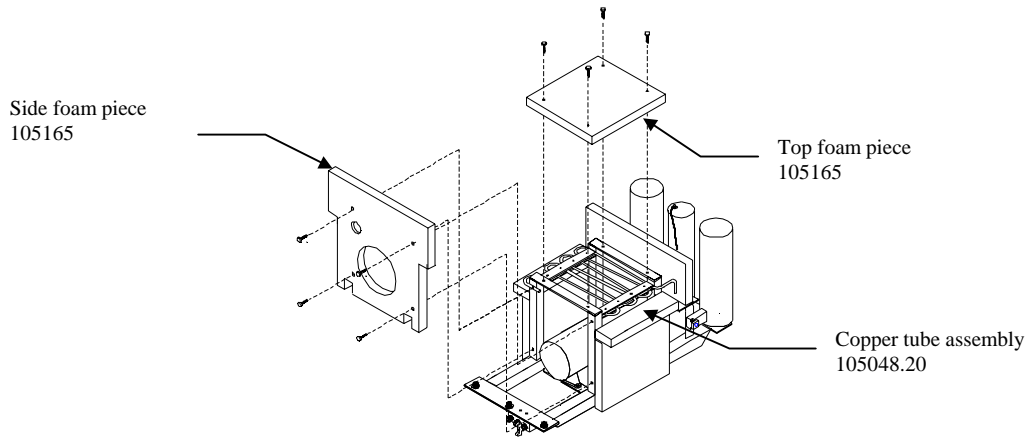

Figure 12
- Remove top and side foam pieces. Each piece of foam has four (4) screws that secure them into place (figure 12).